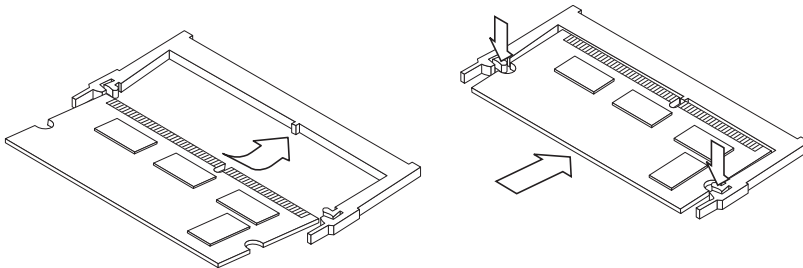

FIGURE 2-2 Installing SO-DIMM Memory Module
3. Holding the SO-DIMM at approximately a 20-degree angle to the board, insert the bottom edge of the SO-DIMM into the bottom of the slot’s hinge-style connector (see FIGURE 2-2).